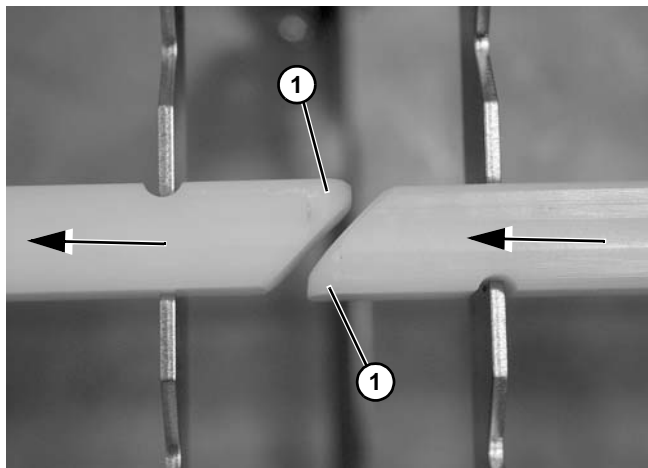

Figure 119
Verify that all wearstrips are installed with curved ends (Figure 119, item 1) in the direction of travel (Figure 119).